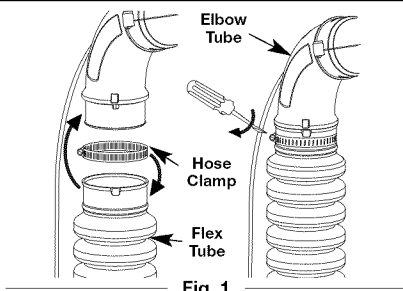

Fig. 1
1. Place a hose clamp over the end of the Flex Tube (Fig. 1).
2. Slide the end of the Flex Tube with the clamp on it over the elbow tube and tighten the screw on the hose clamp (Fig. 1).